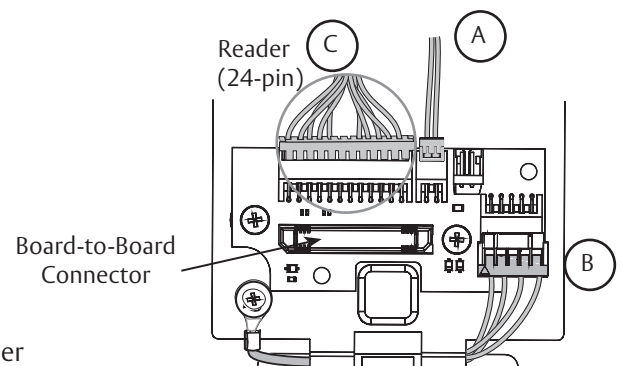

Fig. 10B
IMPORTANT: Do not run wires through bottom hole in plate (Fig. 3A, B) - it will damage wires and the controller connector. Route wires around flange, do not route wires through the flange hole (Fig. 10B).
- Secure the mounting assembly while ensuring proper alignment of outside reader and fully tighten the (2) through-bolts on the inside of the door to secure the reader and plate to the door
- Secure the 24-pin card reader connector (Fig. 10B)